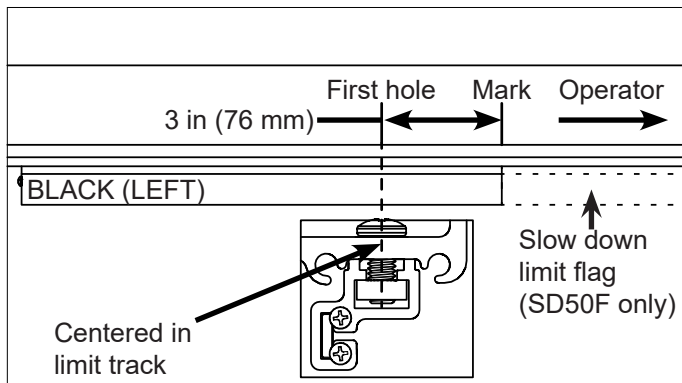
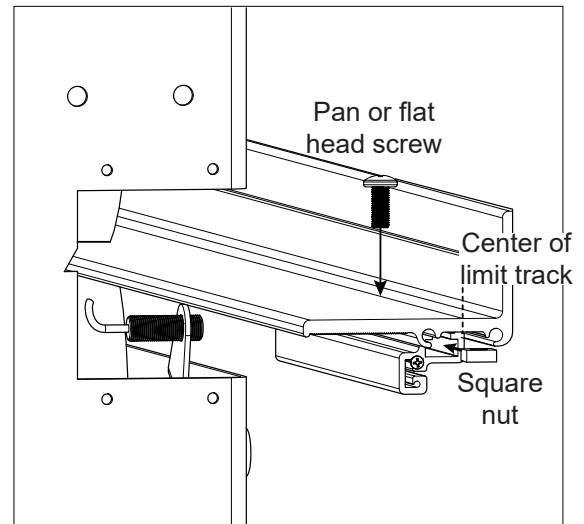
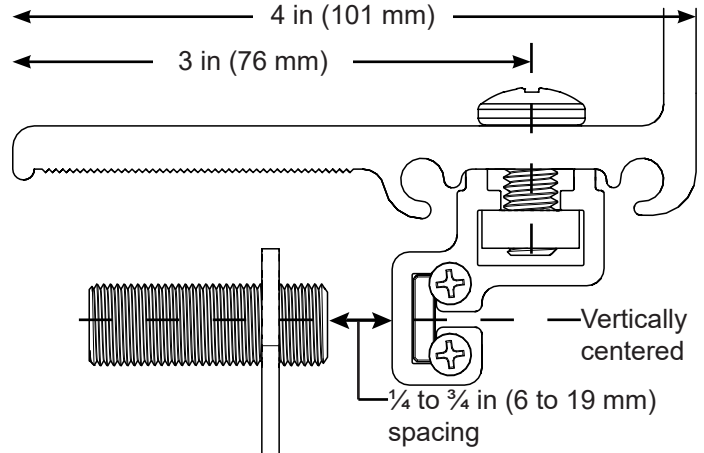

Figure 12. Drill First Limit Flag Hole (Left Limit)
Figure 13. Install Limit Flag
Figure 14. Set Dual Limit Sensor Spacing
5. Drill one hole 3 in (76 mm) from mark away from the operator and approximately 3 in (76 mm) from the edge of the drive rail (Figure 12 and Figure 14).
7. Install a screw into each hole, thread a square nut onto each screw, and slide the limit flag onto the square nut (Figure 13).
9. Set dual limit sensor spacing: loosen the two nuts ($1\frac{1}{16}$ in) on the dual limit sensor, adjust the spacing between the dual limit sensor and stop limit flag face to $\frac{1}{4}$ to $\frac{3}{4}$ in (6 to 19 mm), and tighten the nuts to hold this spacing (Figure 14).
Make sure the limit flag screws are centered in the limit track (Figure 12 and Figure 13).
Make sure the dual limit sensor is centered on the limit flag (Figure 14).